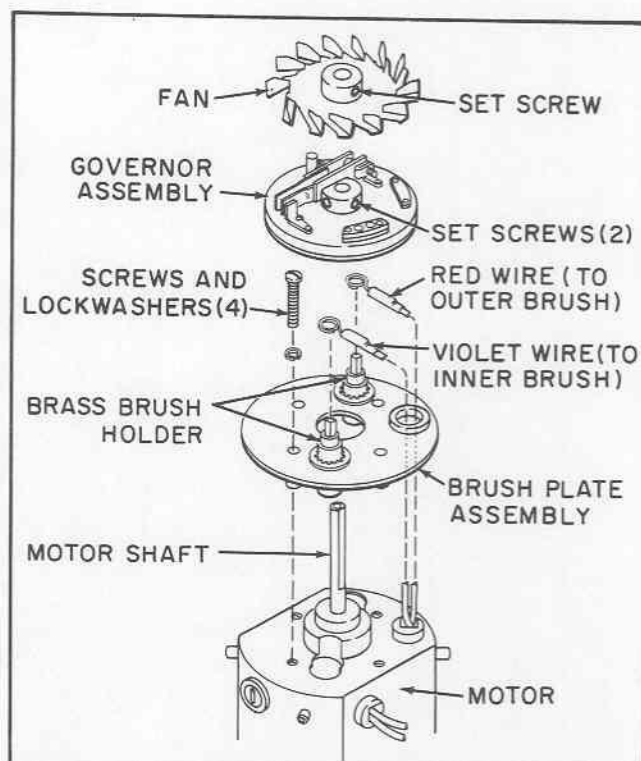

Figure 5-11. Fan and Governor Assembly Details
- e. Loosen two set screws on hub of governor assembly (Figure 5-11), and remove assembly.